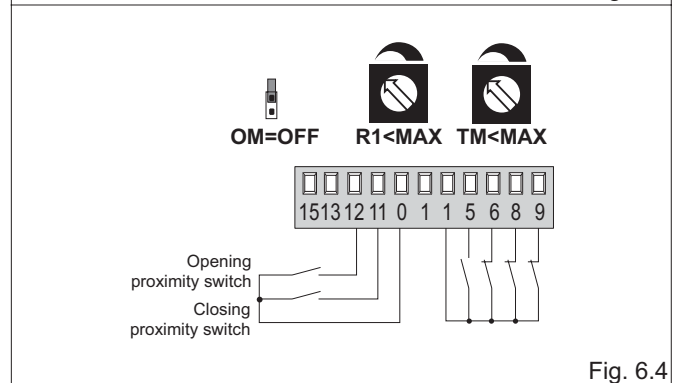

Fig. 6.4
- (Fig. 6.4) Door wing stops against mechanical end stops and reverses motion in the event of obstacle detection.